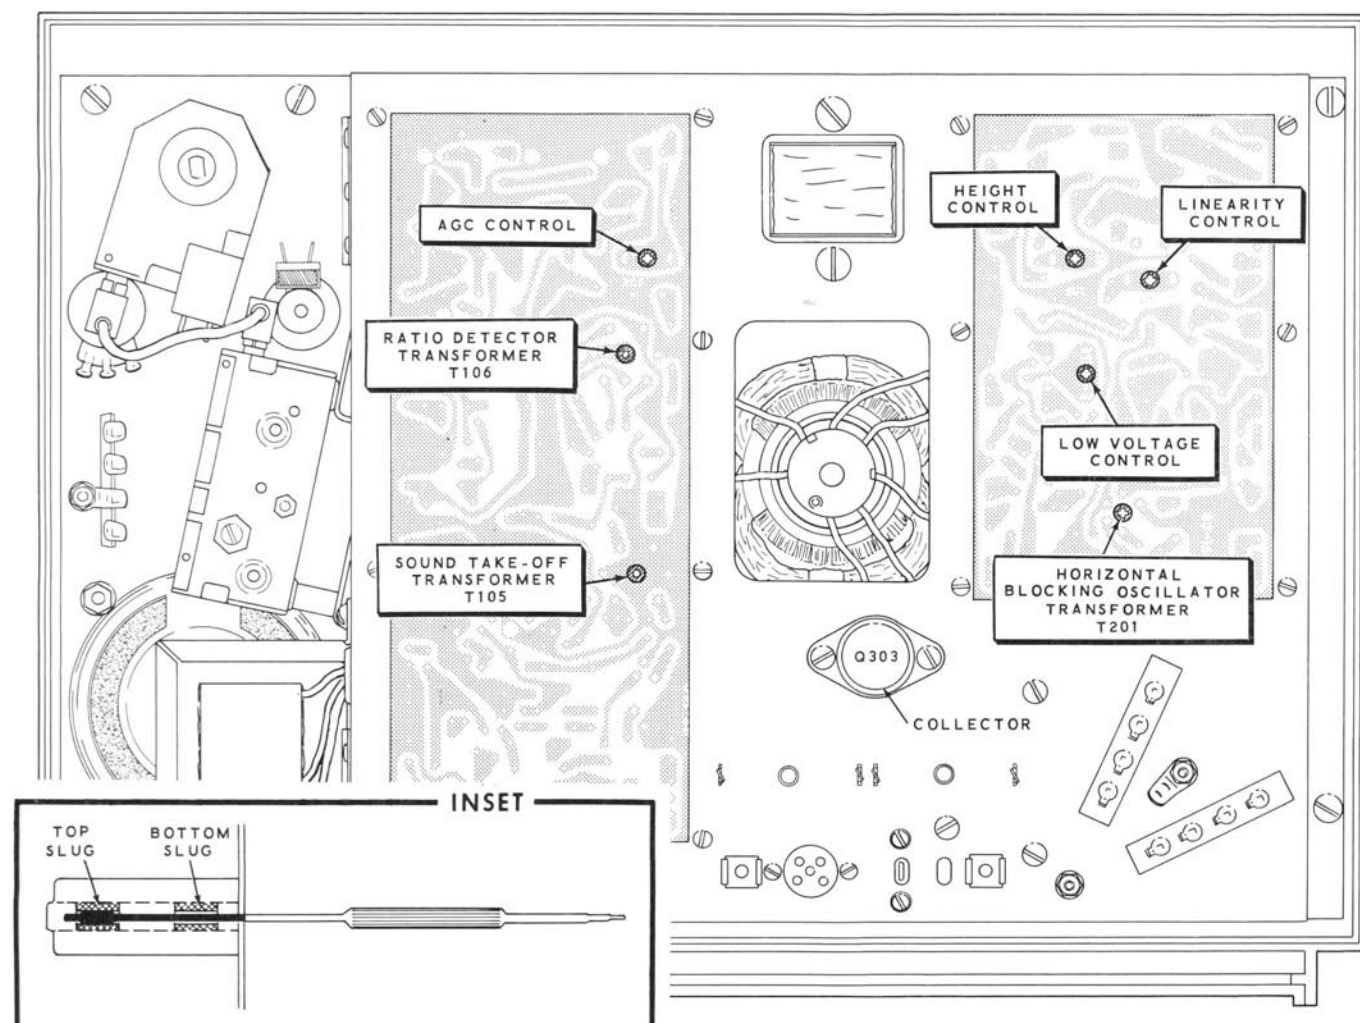

FIGURE 2
Refer to Figure 2 (fold-out from Page 59) for the following steps.
- ( ) Refer to Figure 2 and adjust the horizontal blocking oscillator transformer T201. Use the alignment tool and turn the adjustment slowly until the picture synchronizes.
NOTE: Transformers T105 and T106, which will be adjusted next, each have two internal adjustments, one near the top and one near the bottom. To reach the top adjustment, push the alignment tool through the hole in the bottom adjustment as shown in the inset drawing on Figure 2. Do not turn these adjustments more than 1/2 turn in either direction.